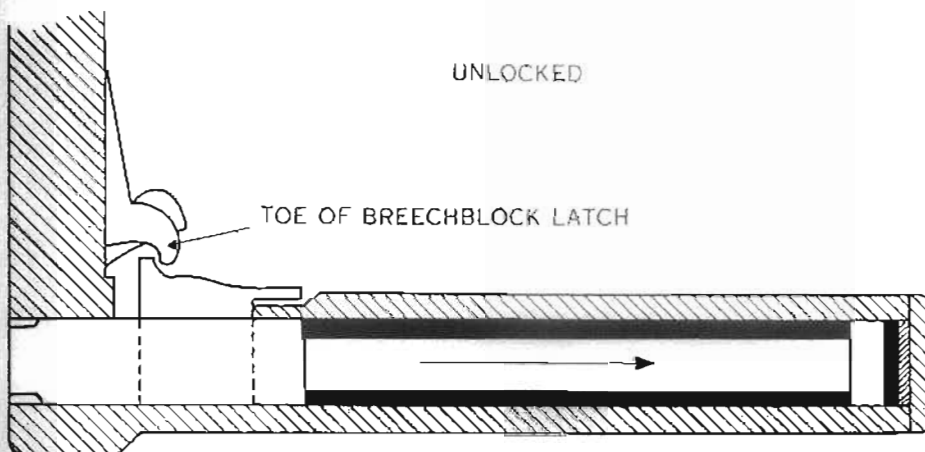

Figure 26
- a. When gun is fired, breechblock and operating handle move to rear. Operating handle plunger, which is heavy and is free to ride in operating handle for about  $\frac{1}{4}$ -inch, remains momentarily stationary during first instant of recoil (fig. 26).